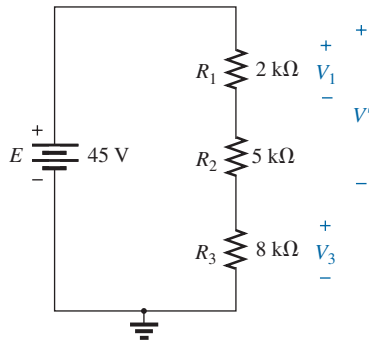

FIG. 5.38
**EXAMPLE 5.16** Using the voltage divider rule, determine voltages  $V_1$  and  $V_3$  for the series circuit in Fig. 5.38.
**EXAMPLE 5.17** Determine the voltage (denoted  $V'$ ) across the series combination of resistors  $R_1$  and  $R_2$  in Fig. 5.38.